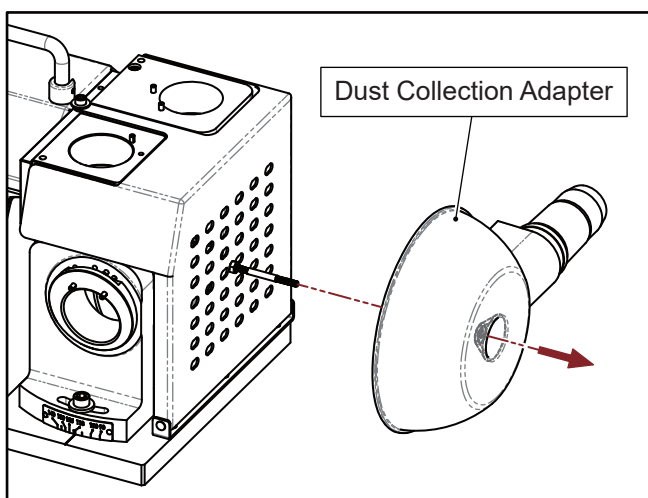

Fig. 2-2
2. Align the hole in the center of the dust collection adapter to threaded rod. Push the dust collection adapter to the end. (Fig. 2-2)